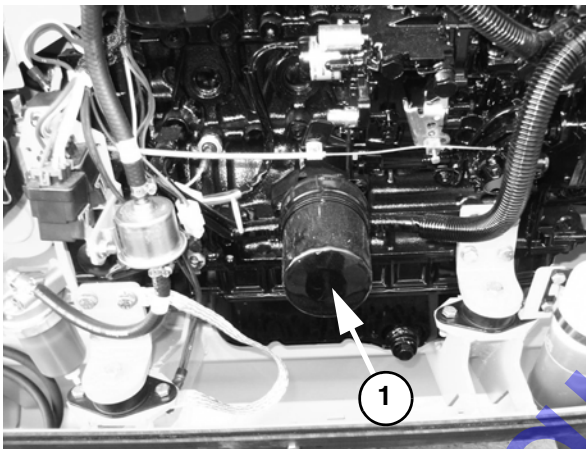

Fig. 42 - Engine Oil Filter
- Remove and discard the engine oil filter (1, Fig. 42).